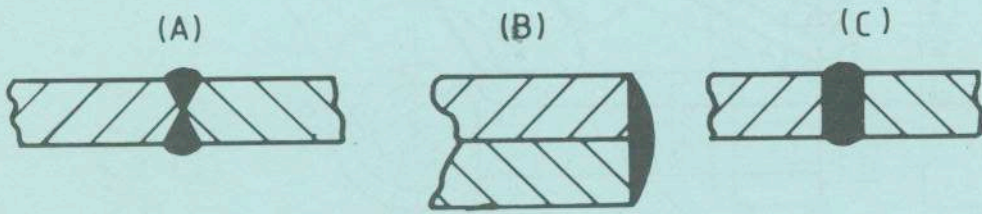

FIG. 6. FÍOR 6.
- (c) State the type and illustrate the symbol for each of the weld joints shown in Figure 6.